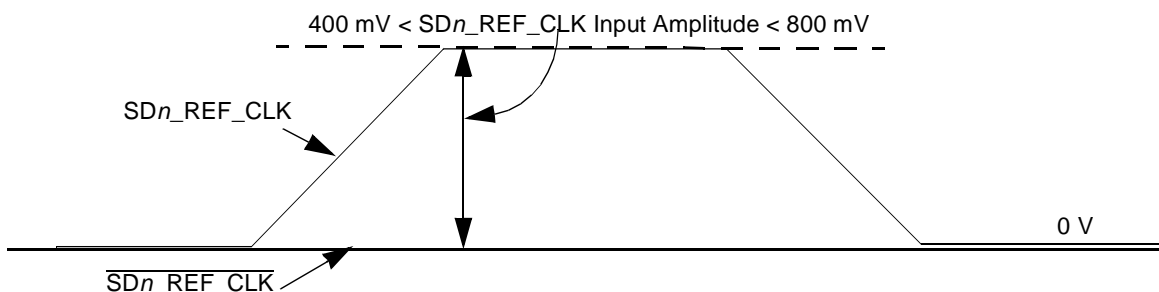

Figure 58. Single-Ended Reference Clock Input DC Requirements
- The SDn_REF_CLK input average voltage must be between 200 mV and 400 mV. Figure 58 shows the SerDes reference clock input requirement for single-ended signaling mode.